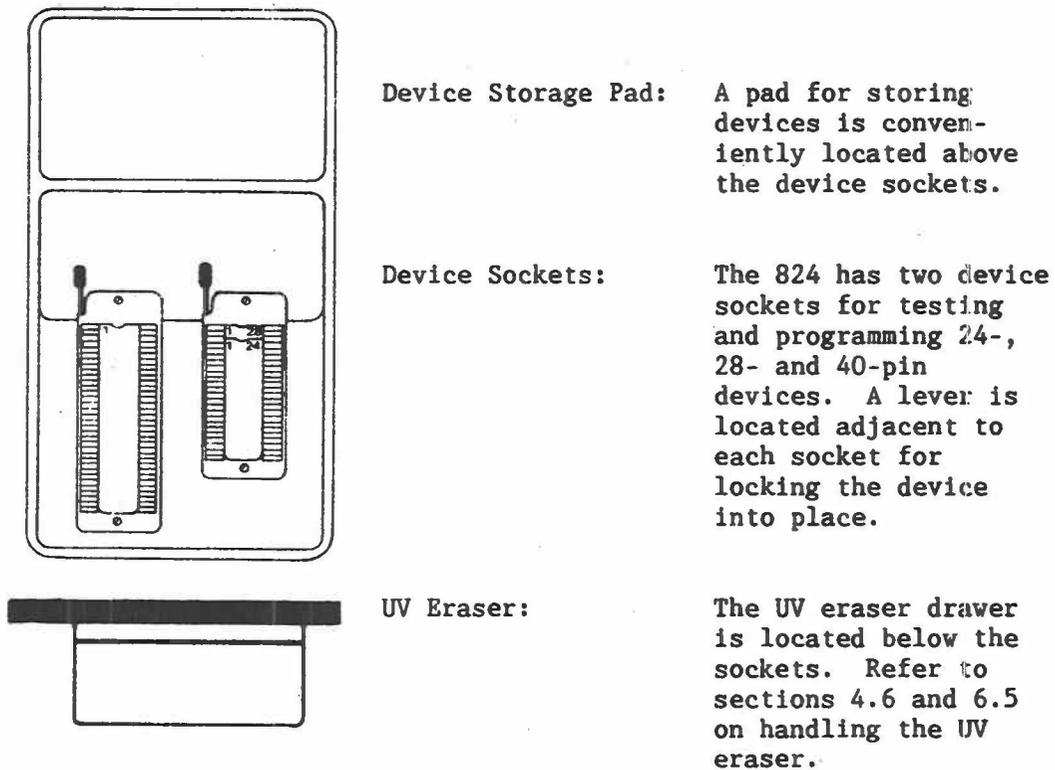

Figure 3.2 -
- Section A:** The Device Center. The device center is comprised of three stations. The device to be programmed is locked into the socket. Above the sockets is a pad for temporarily storing devices. Below the sockets is the UV eraser drawer. Refer to Figure 3.2.